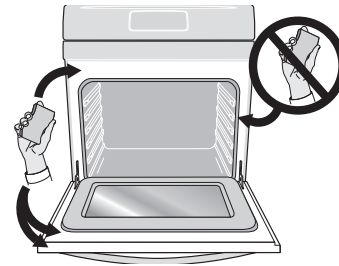

Figure 26: Clean around the oven door gasket
9. Wipe oven cavity and bottom. Do not clean oven door gasket (Figure 26). Avoid leaning or resting on the oven door glass while cleaning cavity.